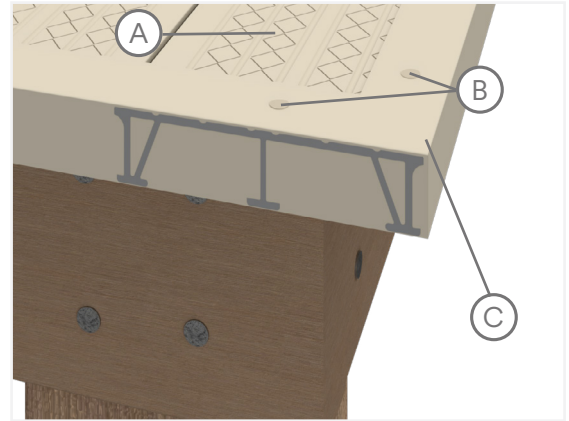

Fig. 15
3. Using the pushpins provided, fasten the C Channel to the DockDeck board (Fig. 15).